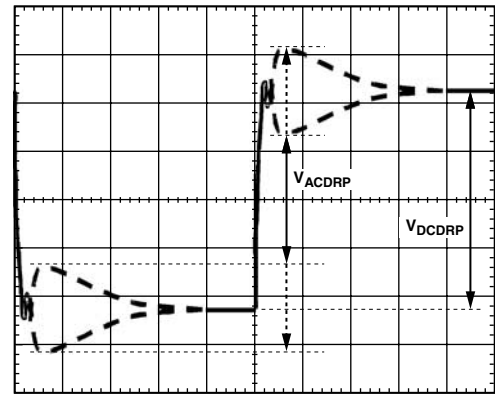

Figure 3. AC Loadline Waveform
Figure 3 shows the typical transient response using the compensation values.
15. The waveform should look something like Figure 3. Use the horizontal cursors to measure V_{ACDRP} and V_{DCDRP} as shown. **DO NOT MEASURE THE UNDERSHOOT OR OVERTHOOT THAT HAPPENS IMMEDIATELY AFTER THE STEP.**